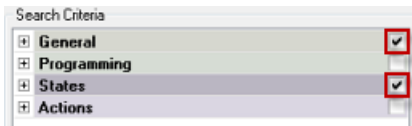

FIG. 349 Find dialog - Search Criteria headings (All General and States properties selected)
- To select all button properties under any heading, click in the checkbox next to the heading: (FIG. 349):